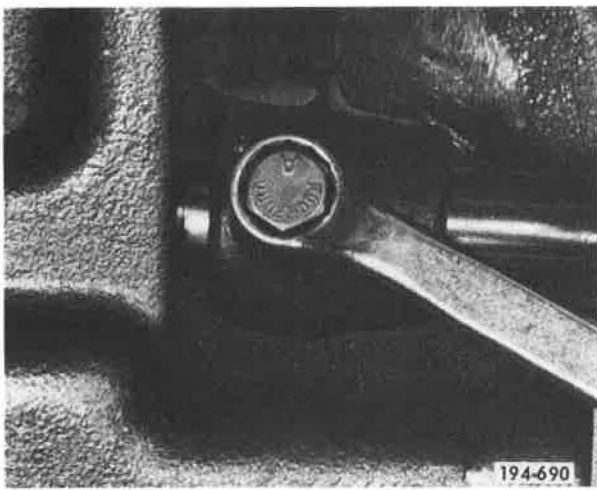

Figure 5-349. Removing Setscrew
2. Remove reverse shifter setscrew. See Figure 5-349.